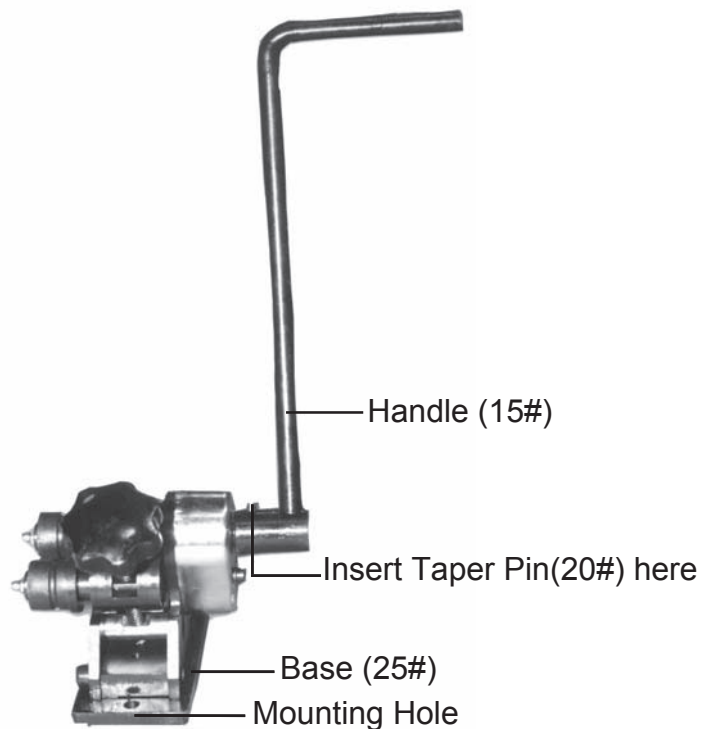

Figure 1
1. Slide the Handle (15#) onto the Drive Shaft II (17#), make certain that the holes in the Handle (15#) line up with the hole in the Drive Shaft II (17#). see **Figure 1**.
2. Secure the Handle (15#) to the Drive Shaft II (17#) using the Taper Pin (20#). Insert the Taper Pin (20#) into the hole as seen in **Figure 1**. If necessary, lightly tap the Taper Pin (20#) into place.